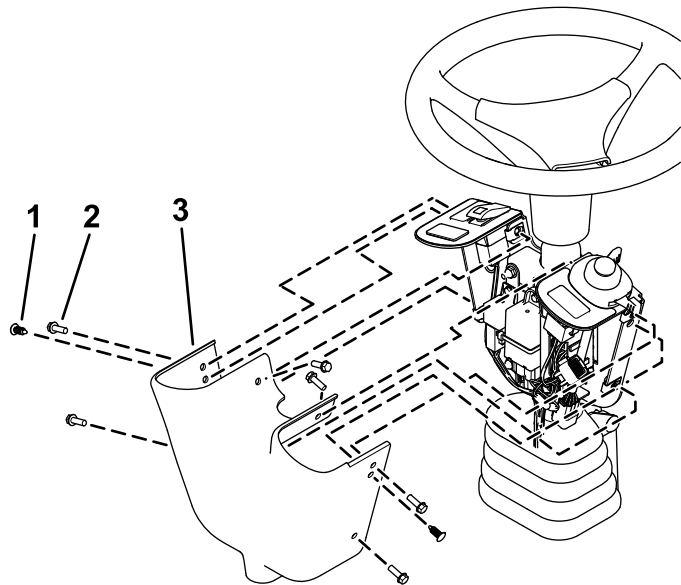

Figure 13
16. Install the control cover to the switch mount using 2 push rivets and 6 hex-head screws (1/4 x 3/4 inch) as shown in Figure 13.